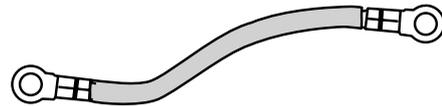

Fig. 12.7
**⚠** Your range is supplied with a ground strap that can be used when connecting to a three wire cord. Consult your electrician before changing the supplied cord kit (**Fig. 12.7**).
A Ground strap is supplied in the conversion pack (**Fig. 12.7**). Fit the Ground strap to the ground and center terminal of the connector block.